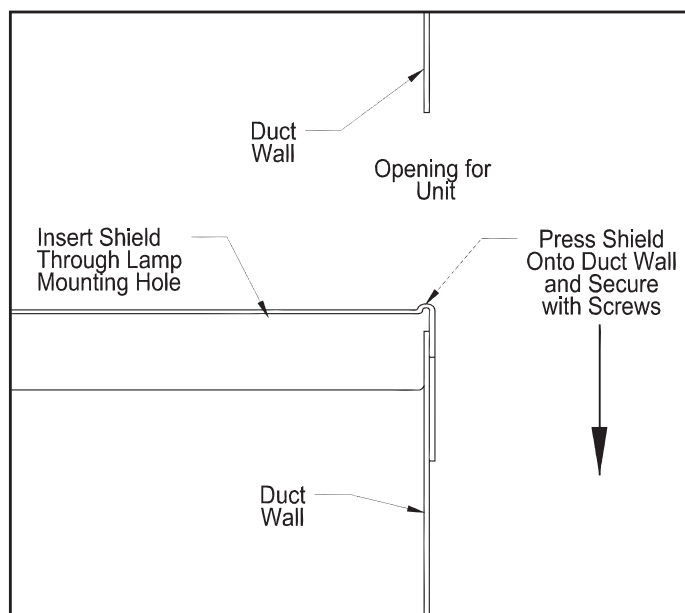

Figure 5
7. Press shield onto duct wall then secure with screws. (See Figure 5)